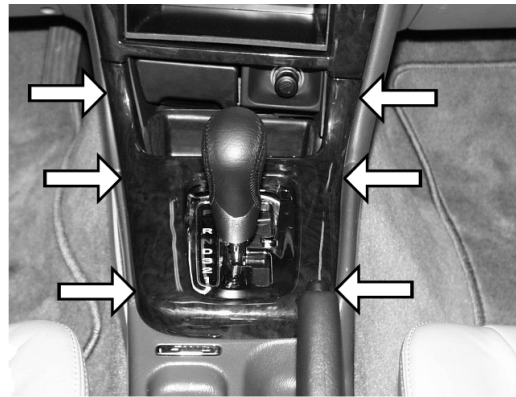

Figure 1
- Remove the gearshift cover by pulling up in areas indicated by arrows in Figure 1.